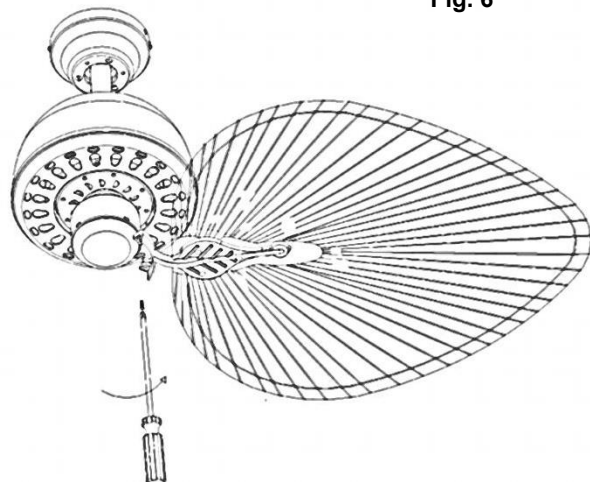

Fig. 6
3. Secure the blade on the motor by using 2 screws with washers to tighten it ensuring they are tightened simultaneously. (Take care not to over tighten as this can damage blades) (Fig.6)